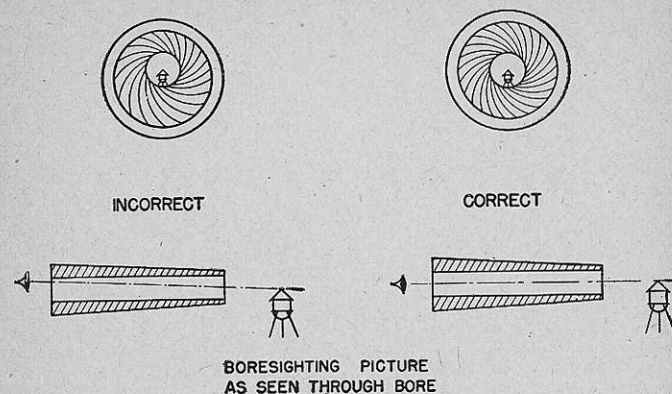

FIGURE 17.—Correct and incorrect method of placing axis of bore on aiming point.
c. Traverse until aiming point is centered in bore of 37-mm gun. (See fig. 17.) Use of crosshairs and improvised boresighting tools will increase accuracy of boresighting.